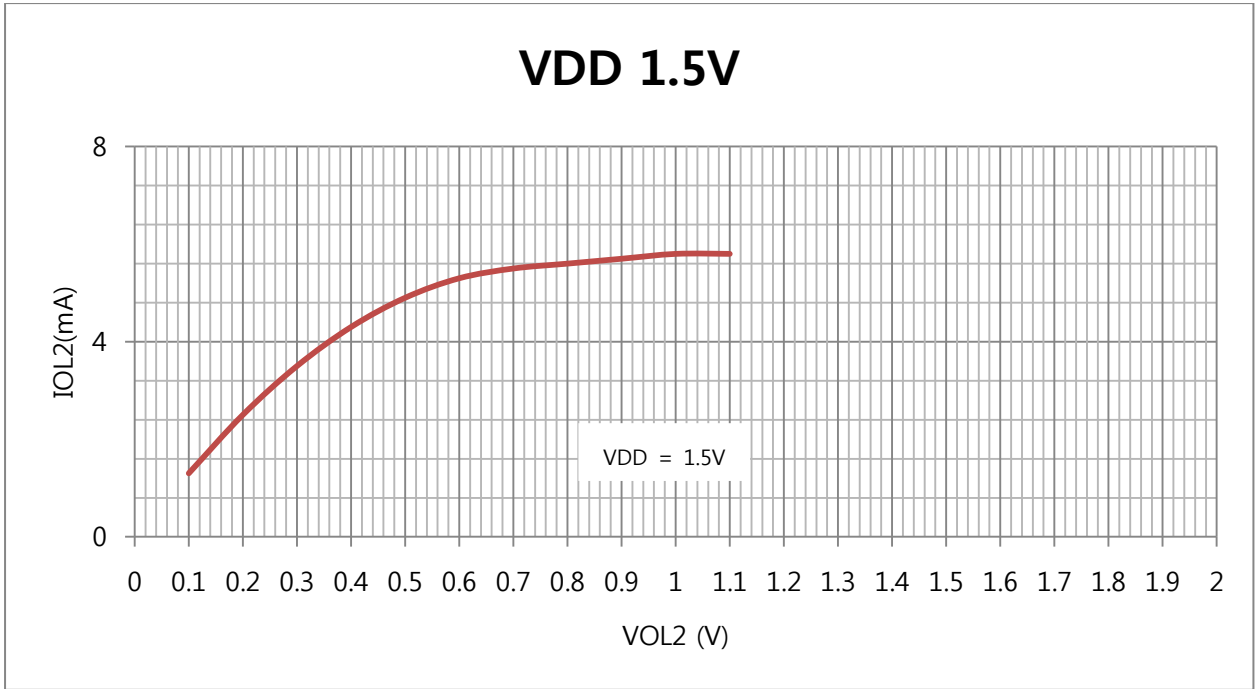

Fig 7-1. I_{OL2} vs. V_{OL2} Graph. (D, R Port)
*1 Refer to Fig.7-1 < I_{OL1} vs. V_{OL1} Graph>